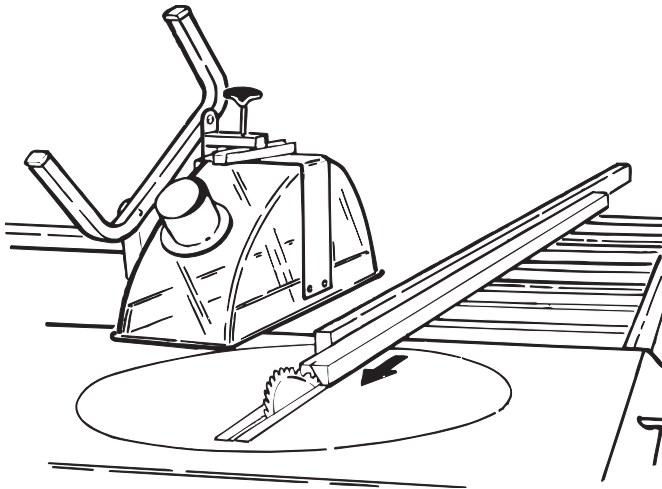

Fig. 19
- Adjust as for ripping and additionally set arbor tilt to desired bevel angle. Perform rip operation as described in 5.5 Rip sawing Fig.19 and 20.